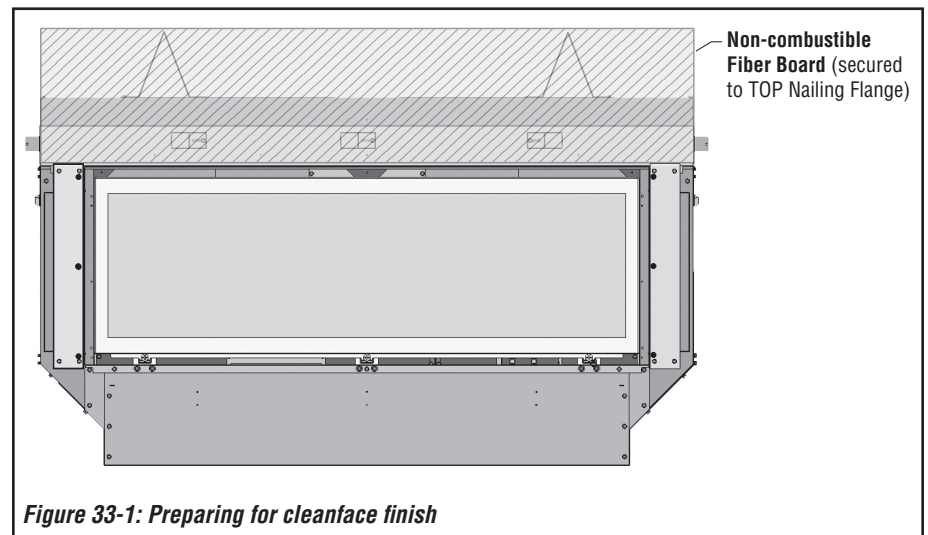

Figure 33-1: Preparing for cleanface finish
- NON-COMBUSTIBLE FIBER BOARD:** See **Figures 33-1, this page, and 34-1, next page**. Attach the provided non-combustible fiber board to the TOP Nailing Flange, and secure using field-supplied screws.